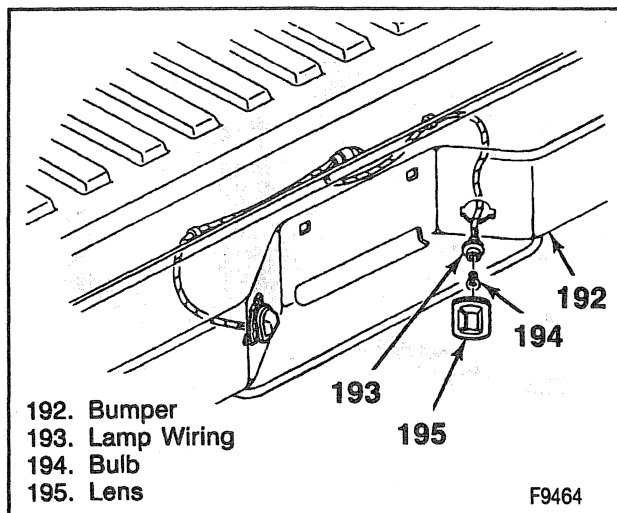

Figure 17—License Plate Lamp (Models with a Step Bumper)
- ↔ Remove or Disconnect (Figures 17 through 21)
- Install or Connect (Figures 17 through 21)